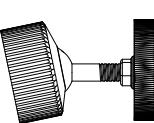

figure 3
Tighten M10 nut (5) against the loudspeaker with a spanner. The assembly will now be as shown in figure 3.